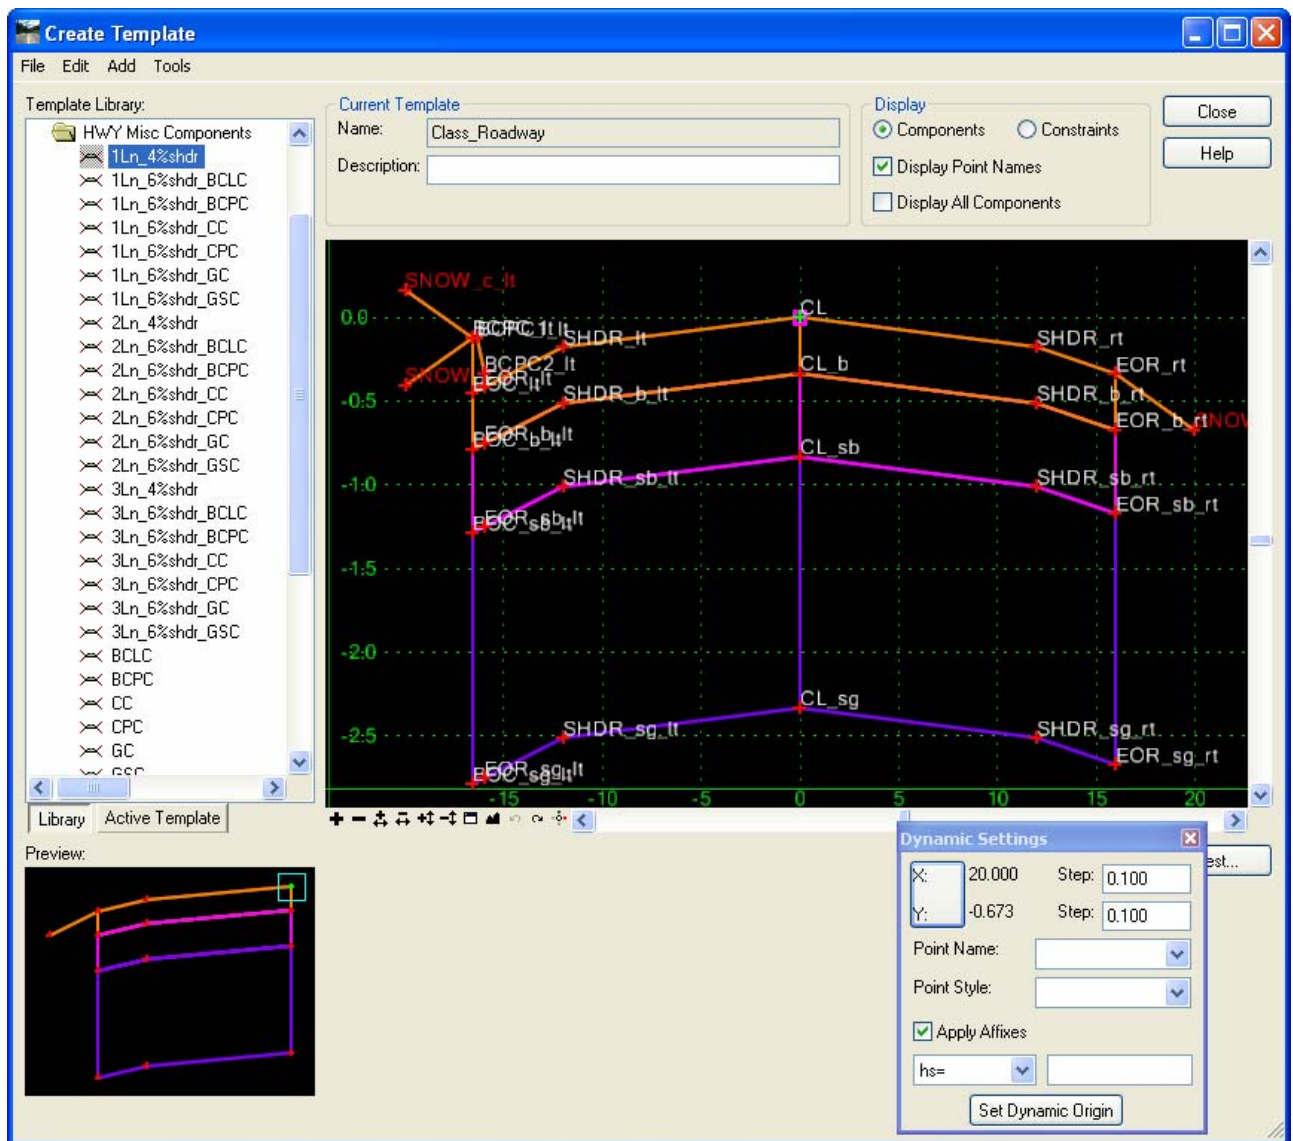

Figure 6-17 Inroads Dialog Box Merging Components
- J. To merge pavement components, fit the template in the display window. Right click close to the center of the top pavement component and select **Merge Components**. This will delete the orange line down the center and create one orange shape. Continue this process with the pink and purple shapes. Figure 6-17 shows the dialog box for creating a template.